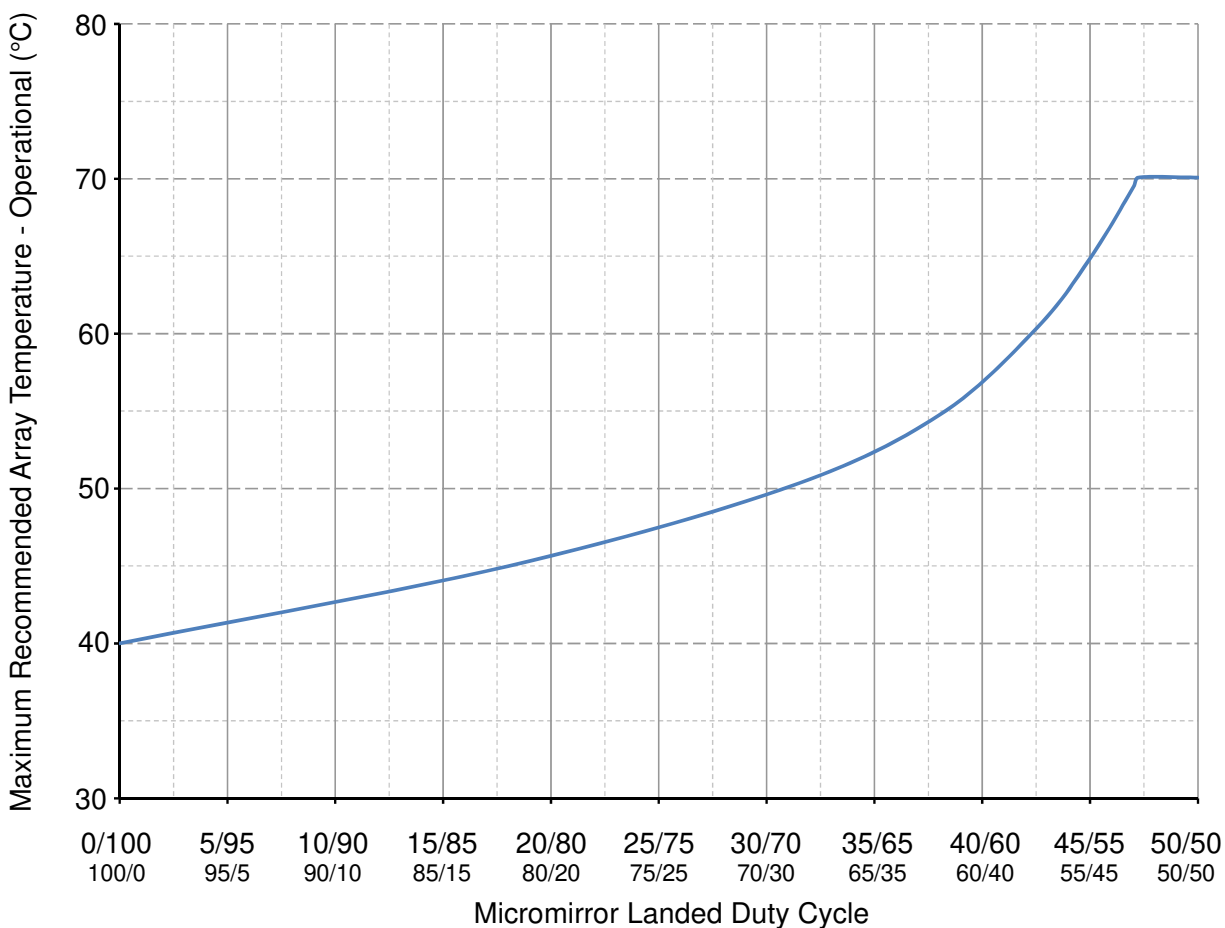

Figure 6-1. Max Recommended Array Temperature - Derating Curve
- (15) Per Figure 6-1, the maximum operational array temperature should be derated based on the micromirror landed duty cycle that the DMD experiences in the end application. See Section 7.7 for a definition of micromirror landed duty cycle.
- (16) Long-term is defined as the usable life of the device.
- (17) Array temperatures beyond those specified as long-term are recommended for short-term conditions only (power-up). Short-term is defined as cumulative time over the usable life of the device and is less than 500 hours.